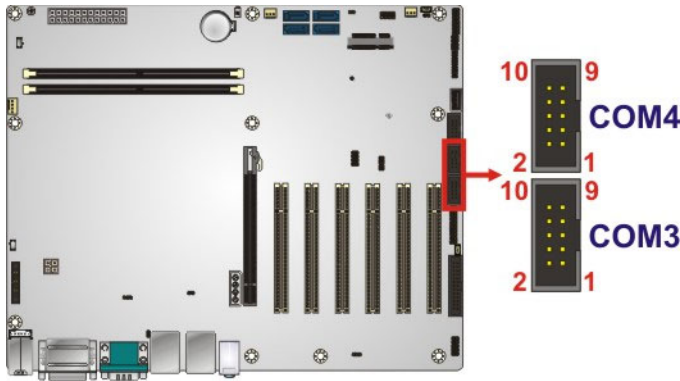

Figure 3-24: RS-232 Serial Port Connector Locations
- CN Location:** See **Figure 3-24**